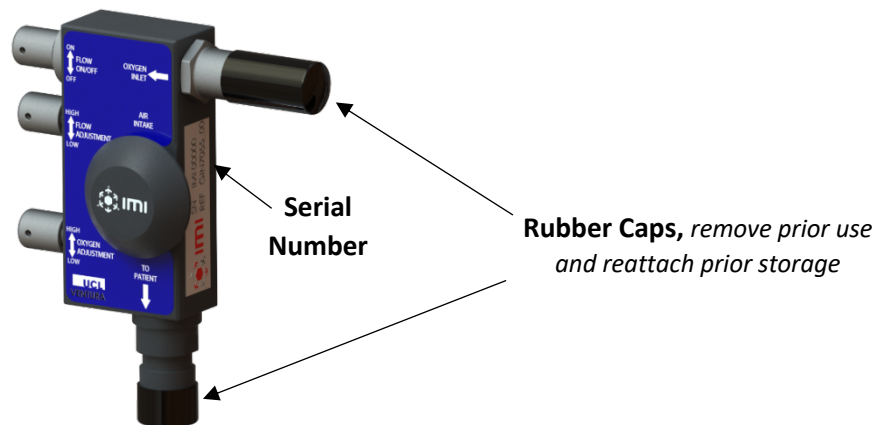

Fig. 2. Rubber Caps and Serial Number Location
1. Check the completeness of the **UCL Ventura** flow generator, supplied Oxygen Analyzer, and mounting accessories from the packaging box. Refer to the packing list and Parts List section on p.25 of this document. For any issues on completeness, please contact the distributor and indicate the **UCL Ventura** flow generator serial number which is located on the device, as shown in Fig. 2.
2. On the **UCL Ventura** flow generator, remove the oxygen inlet and outlet rubber caps shown in Fig. 2. Safekeep these caps and reattach them only when storing the device to avoid entry of contaminants.